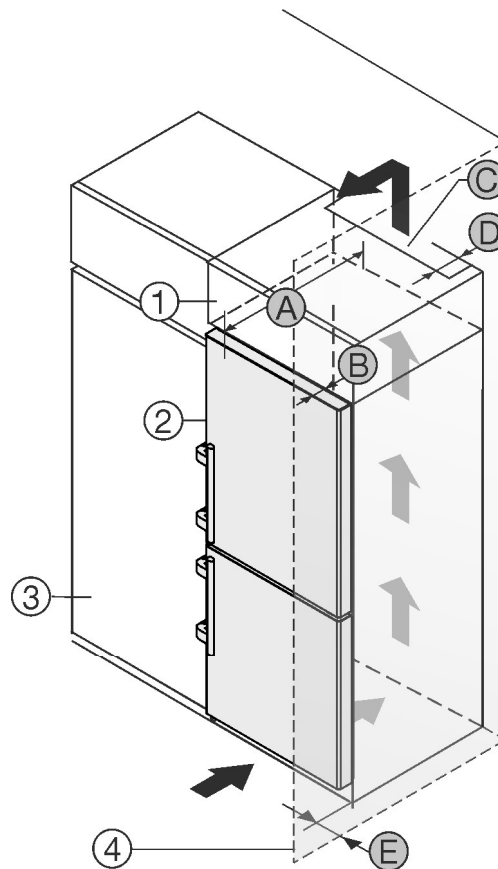

Fig. 2
- (1) Top cabinet \*
- (2) Appliance \*
- (B) Door depth \*
- (C) Ventilation cross-section \*
- (3)** Kitchen cabinet \*      **(D)** Distance to the rear of the appliance \*
- (4)** Wall \*                      **(E)** Distance to the side of the appliance \*
You can place the appliance directly beside the kitchen cabinet *Fig. 2 (3)*.\*
There must be a ventilation shaft at the depth *Fig. 2 (D)* of the back of the top cupboard over the entire width of the top cupboard.\*
The cross section of the ventilation gap *Fig. 2 (C)* must be maintained below the ceiling.\*
If the appliance is set up with the hinges next to a wall *Fig. 2 (4)*, the distance between the appliance and the wall must be at least 57 mm (2 1/4 in) . This is how far the handle protrudes when the door is open.\*
In order to be able to fully open the door, the appliance must protrude by the depth of the door *Fig. 2 (B)* from the front of the kitchen cabinet. Regardless of the depth of the kitchen cabinets *Fig. 2 (3)* and use of wall spaces, the appliance can protrude further.\*